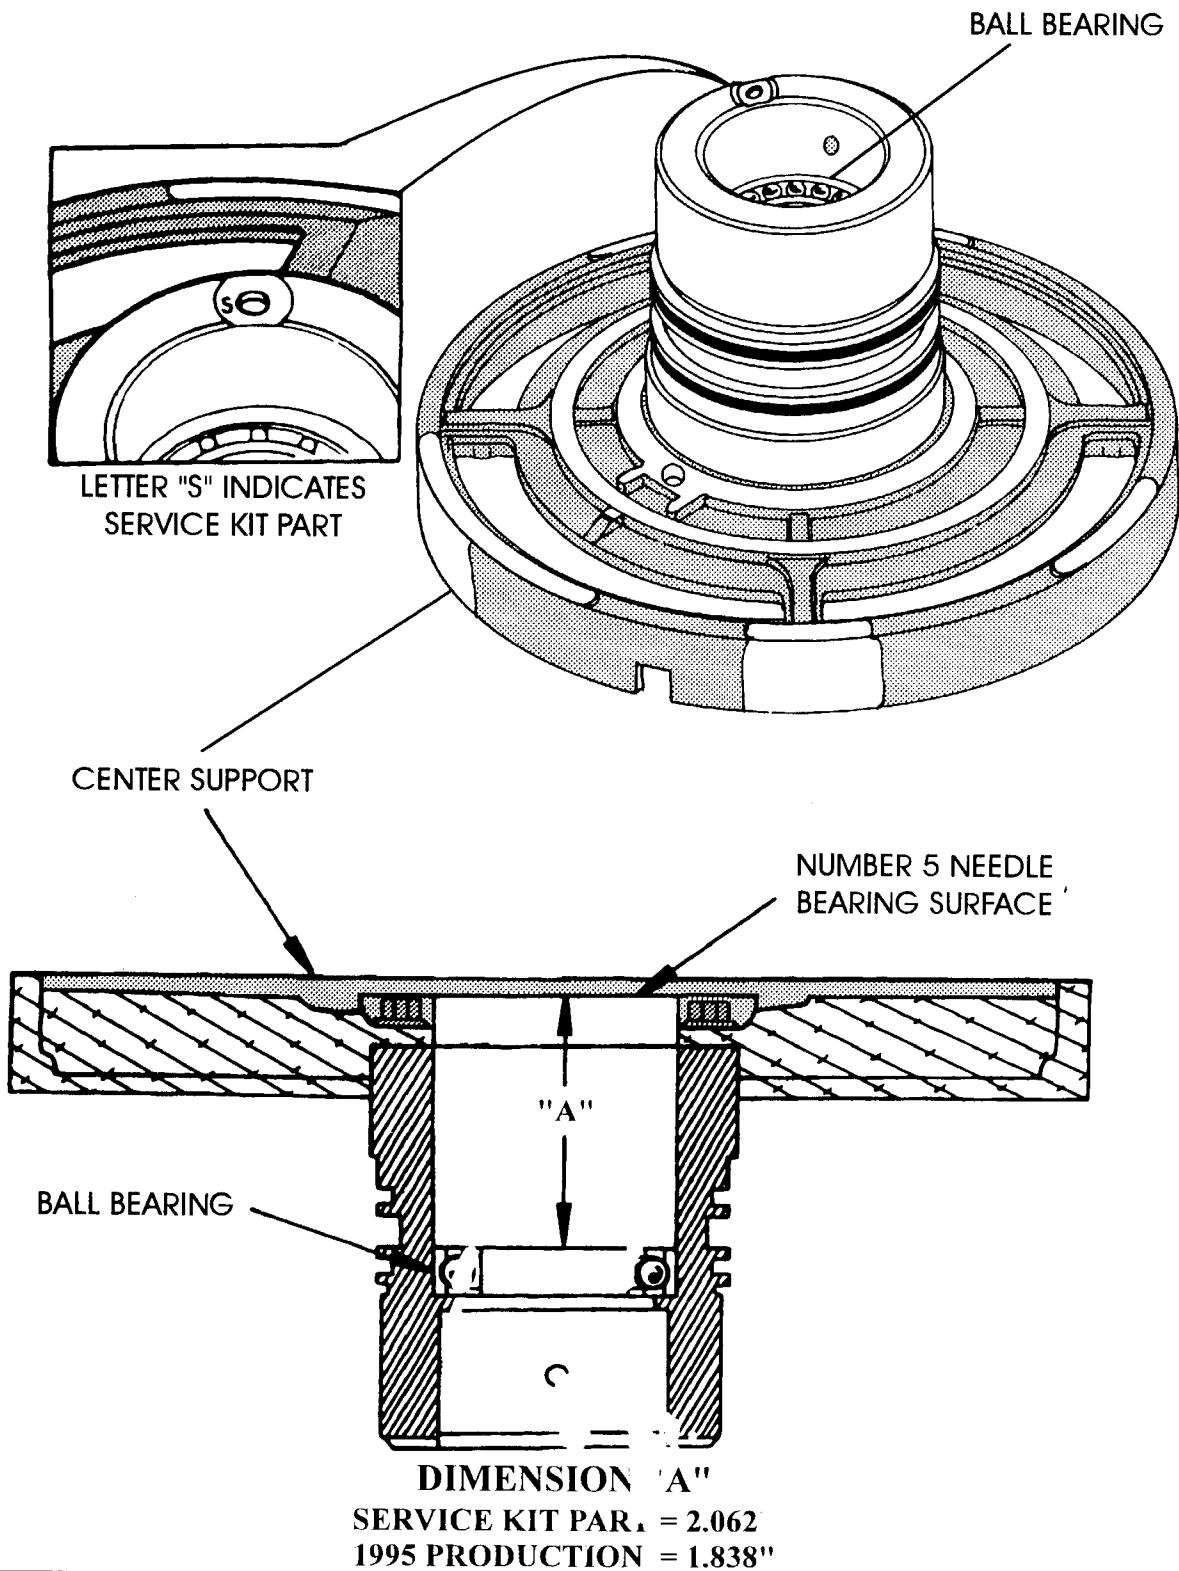

Figure 44
- (1) CENTER SUPPORT - Different machining dimensions on the inside bore, to accommodate an added ball bearing that will now support the overdrive center shaft. The new design ball bearing support can be identified as a "Service Part", by the letter "S" stamped on hub, in the location shown in Figure 44. The Service Kit Ball Bearing Center Support has different dimensions than the 1995 production ball bearing center support. Refer to Dimension "A" on the cutaway drawing shown in Figure 44.
- (1) This Service Kit will service all past model E4OD transmissions 1989 thru 1994 model years, when used in it's entirety, and is highly recommended on *all* previous model E4OD units.
- (2) The parts in this Service Kit are different dimensions than 1995 model year production parts and *will not* interchange with 1995 model parts (See Figures 44 and 45).